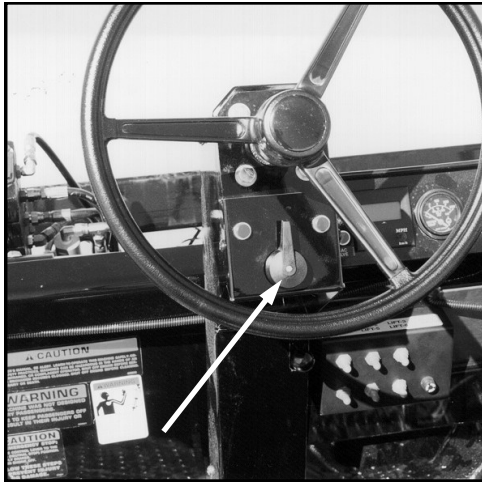
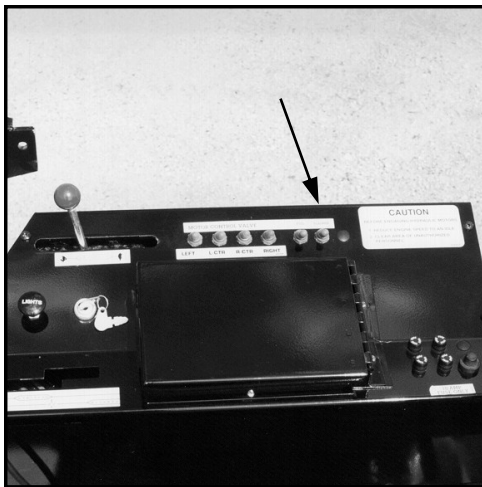
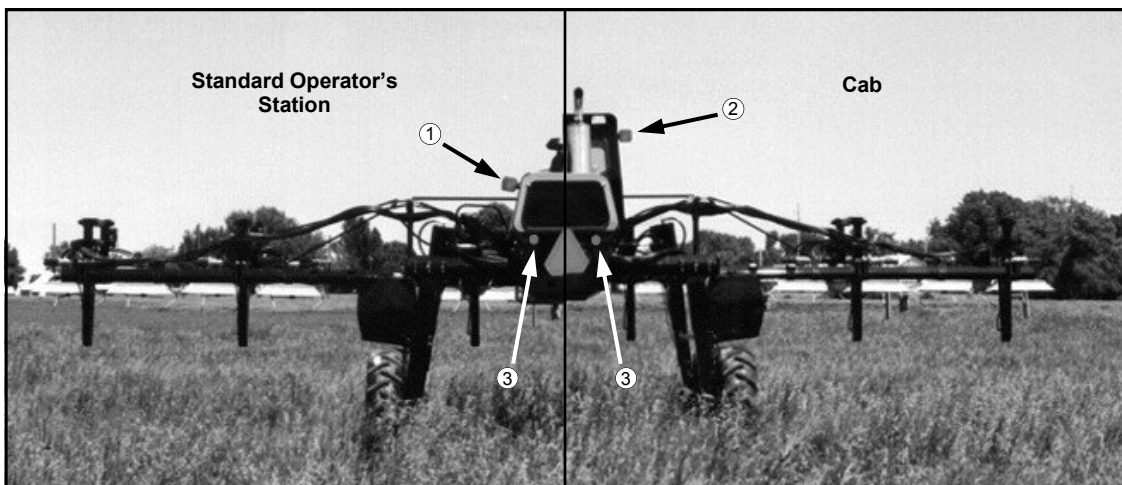

FIG 5.61
FIG 5.62
FIG 5.63
To activate the front (fig. 5.63, item 1 or 2) and rear turning signals (fig. 5.63, item 3) move the turn signal lever (fig. 5.61) right during a right-hand turn and left during a left-hand turn. Steering column-mounted turn signal indicators will correspondingly flash when either side of the turn signals is activated. The turn signal lever is not a self-centering switch; you must return it to the “OFF” position by hand after completing your turn.
To activate the flashing hazard/warning lights (fig. 5.63, item 1 or 2) flip the “FLASHER” switch to the “ON” position (fig. 5.62). Activate the hazard/warning lights anytime traveling on a public road, day or night, unless prohibited by law.
Activating any of the work lights (see page XX) will also turn on the “RED” running lights on the rear of the machine (fig. 5.63, item 3).